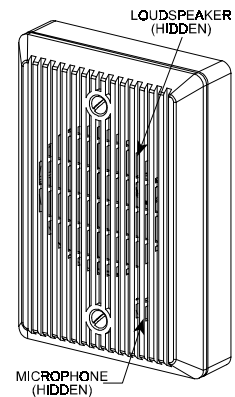

Figure 2-3. The Auxiliary Speakerphone
- **An auxiliary speakerphone** (see Figure 2-3): This is an optional hands-free intercom device, which complements the speakerphone module included within the AUTOCOM-200. When mounted in remote parts of your residence such as the basement, the balcony or the back yard - this unit will allow the supervisor at the response center to converse with you, even though you are too far from the original speakerphone.